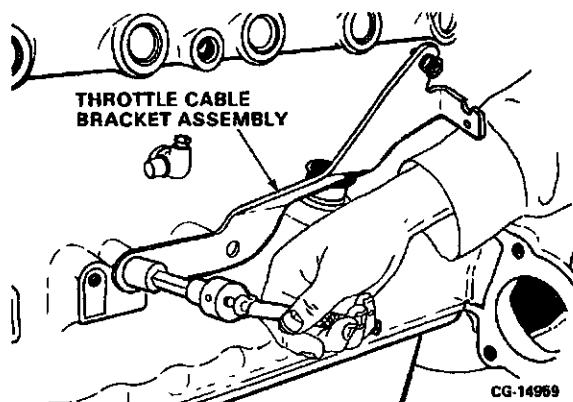

Figure 11.74. Remove the Throttle
3. Remove the throttle cable bracket assembly from the crankcase. Refer to Figure 11.74.